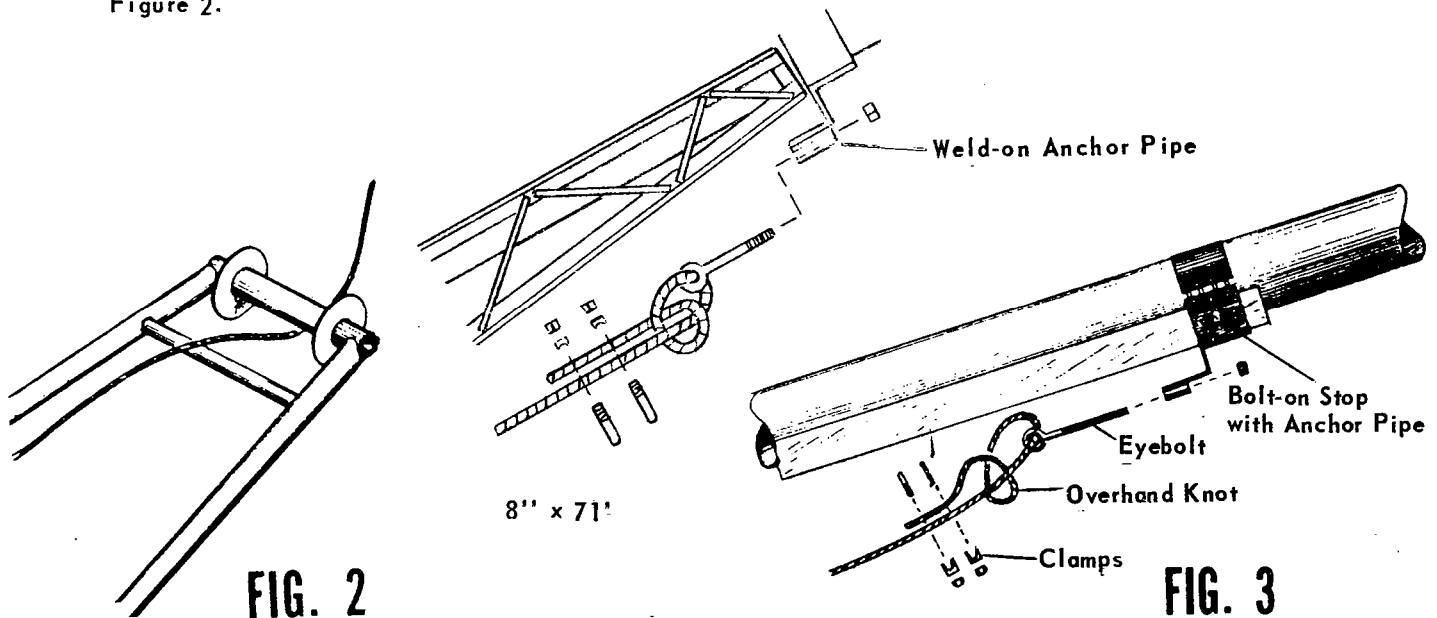

FIG. 2
2. Run restraint cable through lift arm of undercarriage between roller and the first cross brace. See Figure 2.